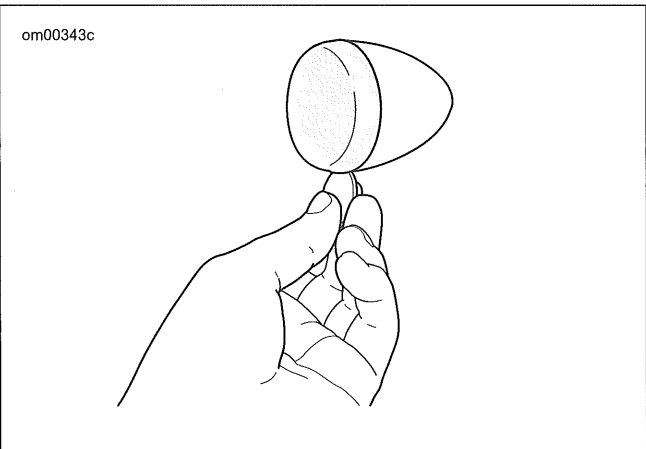

Figure 7-67. Remove Lens
- 1. See Figure 7-67. Replace bulb.